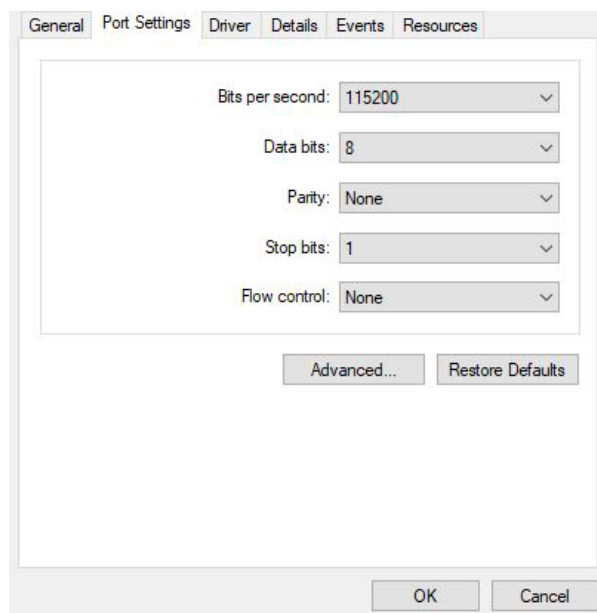

Figure 5-2. COM Port in the Workstation Device Manager
4. Click the **Port Settings** tab. Refer to Figure 5-2.